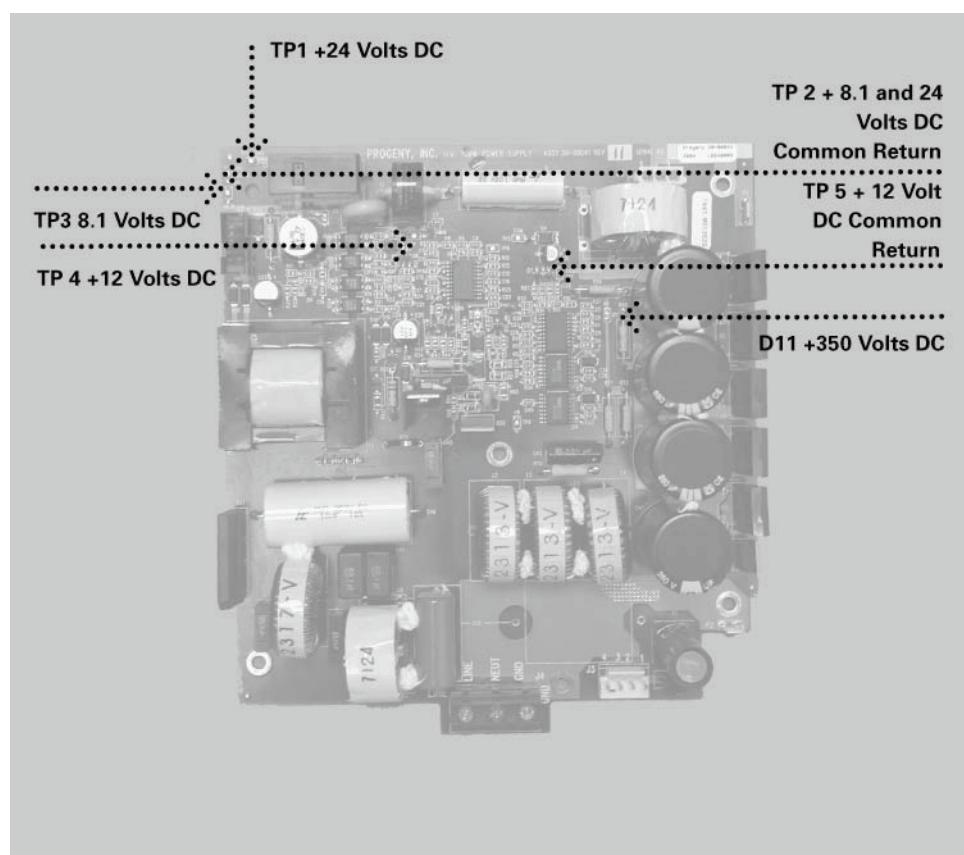

Figure 49
1. On the Power Supply Board, observe that the power supply indicator D11 +350volts DC is illuminated, as shown in Figure 49. Illumination represents proper stored energy for an exposure. If this indicator is not illuminated, it will be necessary to replace this board.
3. On the Power Supply Board, use TP2 as a common test point to check TP1 +24 volts DC and TP3 8.1 volts DC. Then use TP5 as the common return to check TP4 for the presence of +12 volts DC, as shown in Figure 49. Should any of these voltages not be present, replace the Power Supply Board. If each voltage is present, check other voltages on the Logic Board.